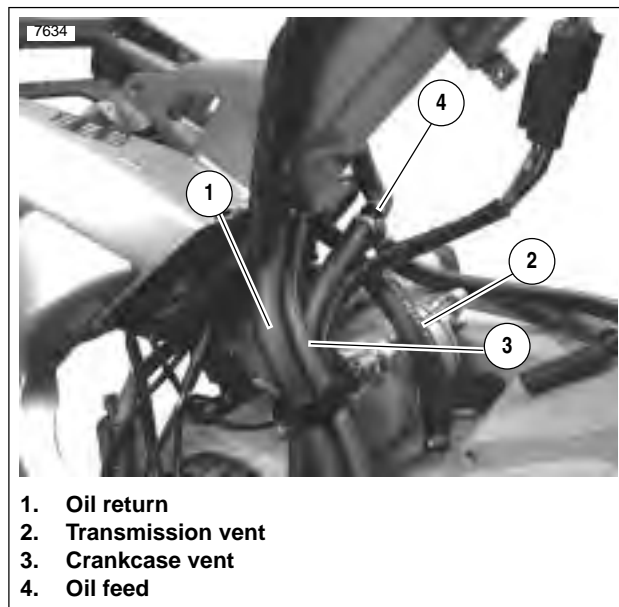

Figure 3-13. Disconnect Lines
31. See Figure 3-13. Disconnect feed, return, transmission and crankcase vent lines.